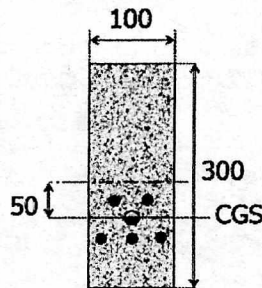

Fig. 1
2. A concrete beam of dimension 100 mm × 300 mm (Fig. 1) is post-tensioned with 5 straight wires of 7mm diameter. The average prestress after short-term losses is $0.7f_{pk} = 1200 \text{ N/mm}^2$ and the age of loading is given as 28 days. Given that $E_p = 200 \times 10^3 \text{ MPa}$, $E_c = 35000 \text{ MPa}$, find out the losses of prestress due to creep, shrinkage and relaxation. Neglect the weight of the beam in the computation of the stresses. (5)